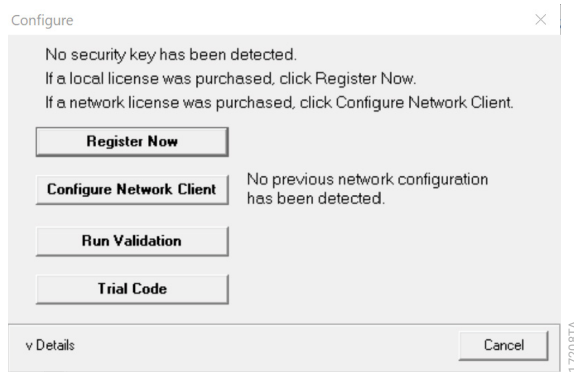

Figure 13. 'Configure' window.
2. Select **Register Now** in the 'Configure' window (Figure 13).